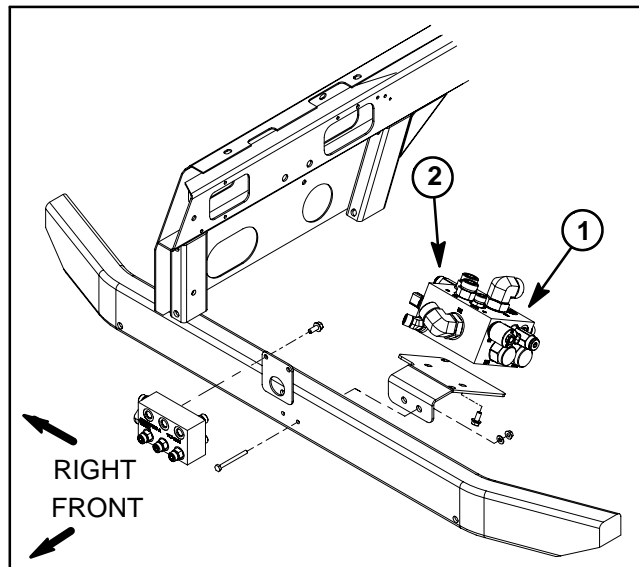

Figure 38
3. Connect a 1000 PSI (70 bar) pressure gauge to test port G on rear side of 4WD/2WD control manifold under operator's platform (Fig. 38).